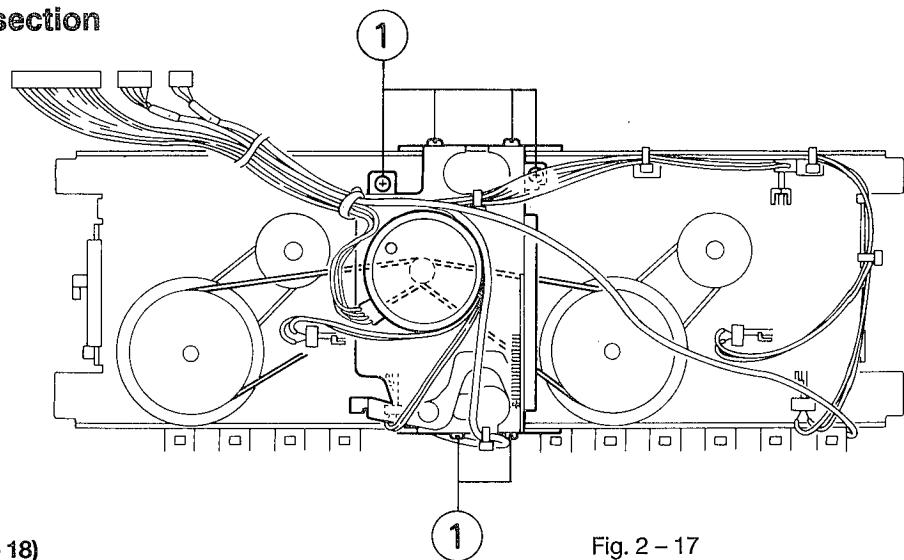
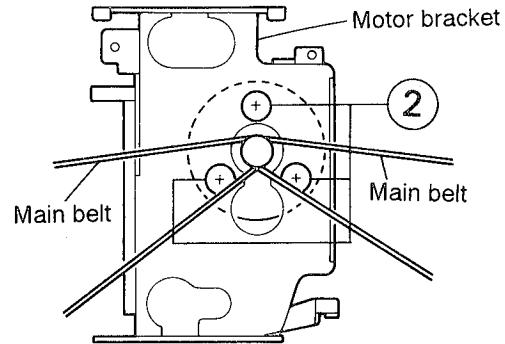

Fig. 2-17
Fig. 2-18
■ Capstan motor (Fig. 2-17, Fig. 2-18)
5. Remove six screws ① retaining the motor bracket from the back of the cassette mechanism.
7. Remove six screws ② retaining the Capstan motor from the back of the cassette mechanism.